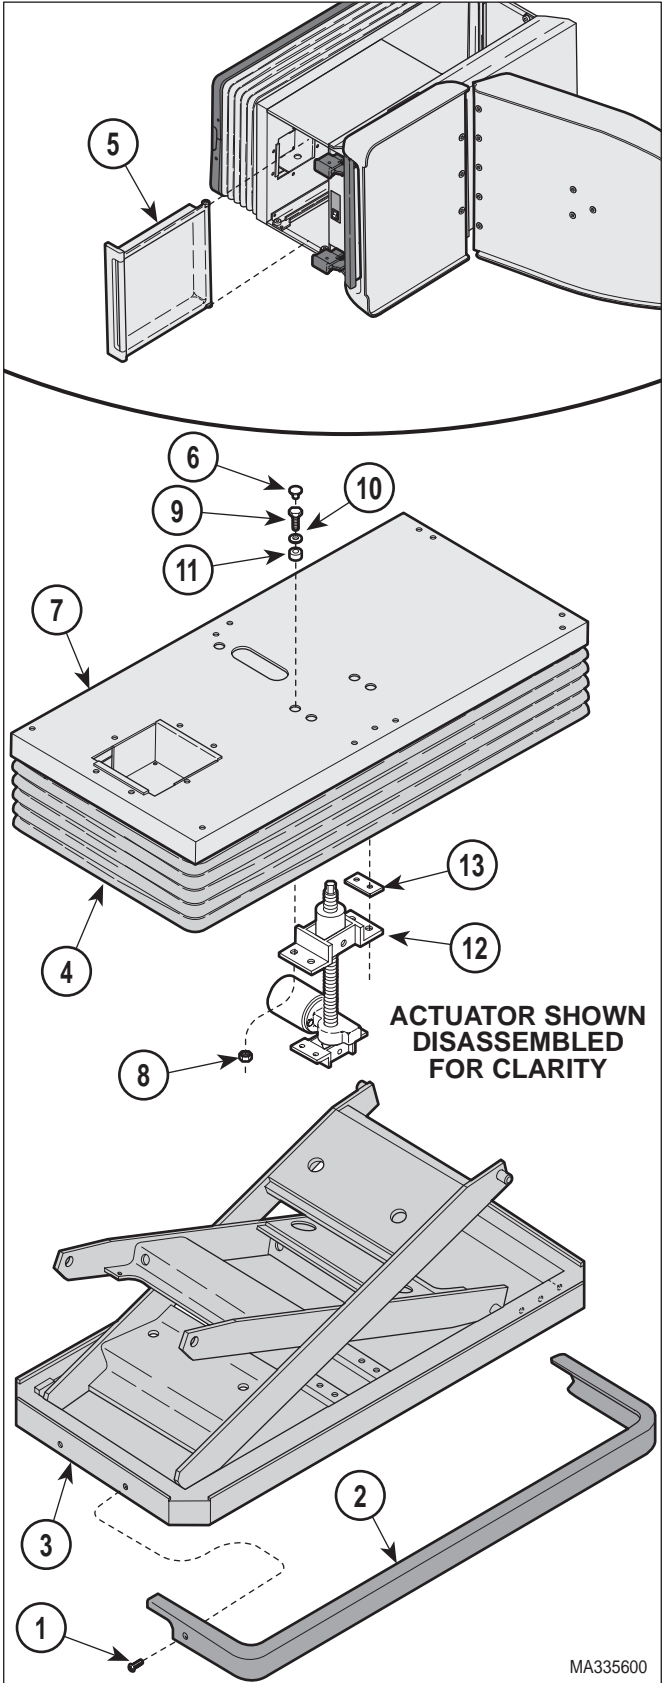
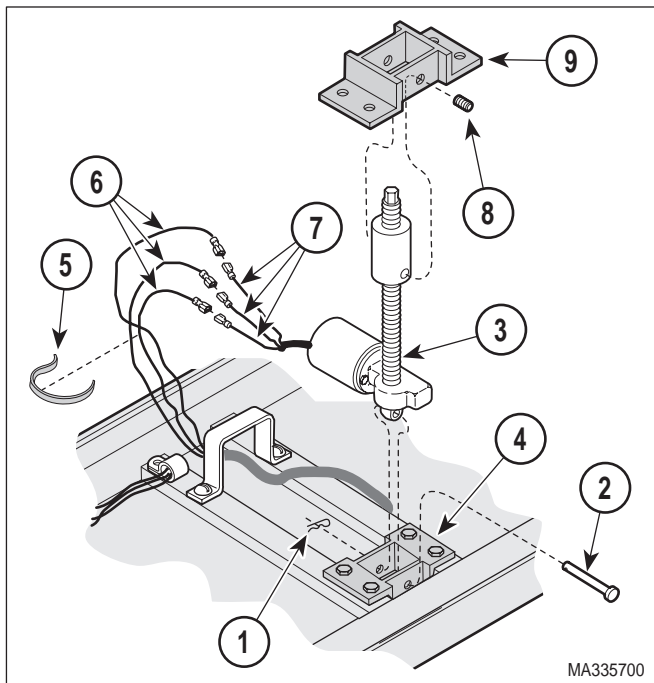

Figure 4-3. Base Actuator Shaft Disconnection
Figure 4-4. Base Actuator Removal / Installation
- f. Position a 5/8 inch socket with extension thru access hole (10) and onto base actuator nut (11). Ratchet shaft of base actuator (12) until table top is raised all the way.
- (2) Remove four screws (1, Figure 4-3) and two bellows retainer trim (2) from lower base weldment (3).
- (3) Raise bellows (4) and support in the up position.
- (4) Remove all drawers (5) from table.
- (6) Using a small screwdriver, pry four hole plugs (6) from upper wrap (7); two from each drawer set opening.
- (7) Remove four nuts (8), screws (9), washers (10), and mount bushings (11) securing upper weldment hitch (12) to upper wrap (7).
- (8) Pull on lower base weldment (3) to separate upper weldment hitch (12) from upper wrap (7). Remove two isolator pads (13).
- (9) Remove hitch pin clip (1, Figure 4-4) and clevis pin (2) securing base actuator (3) to lower weldment hitch (4).
- (10) Cut cable tie (5) securing wires together.
- (11) Disconnect three wires (6) from three actuator wires (7).
- (12) Remove base actuator (3) from table.
- (13) Remove two pivot screws (8) and upper weldment hitch (9) from shaft of base actuator (3).
- (1) Coat threads of two pivot screws (8, Figure 4-4) with permanent threadlocking adhesive (Loctite 262).
- (2) Install upper weldment hitch (9) on shaft of base actuator (3) and secure with two pivot screws (8), making sure the shaft of base actuator is centered in upper weldment hitch.
- (3) Position base actuator (3) in base of table.
- (4) Secure base actuator (3) to lower weldment hitch (4) and secure with clevis pin (2) and hitch pin clip (1).
- (5) Connect three wires (6) to three actuator wires (7).
- (6) Secure wires together with cable tie (5).
- (7) Plug table power cord into wall outlet.
- (8) Carefully run BASE UP function until upper weldment hitch (12, Figure 4-3) is close to upper wrap (7).
- (9) Unplug table power cord from wall outlet.
- (10) Coat threads of four screws (9) with permanent threadlocking adhesive (Loctite 262).
- (11) Connect upper weldment hitch (12) to upper wrap (7) with two isolator pads (13), four mount bushings (11), washers (10), screws (9), and nuts (8).
- (12) Install four hole plugs (6) in upper wrap (7); two in each drawer set opening.